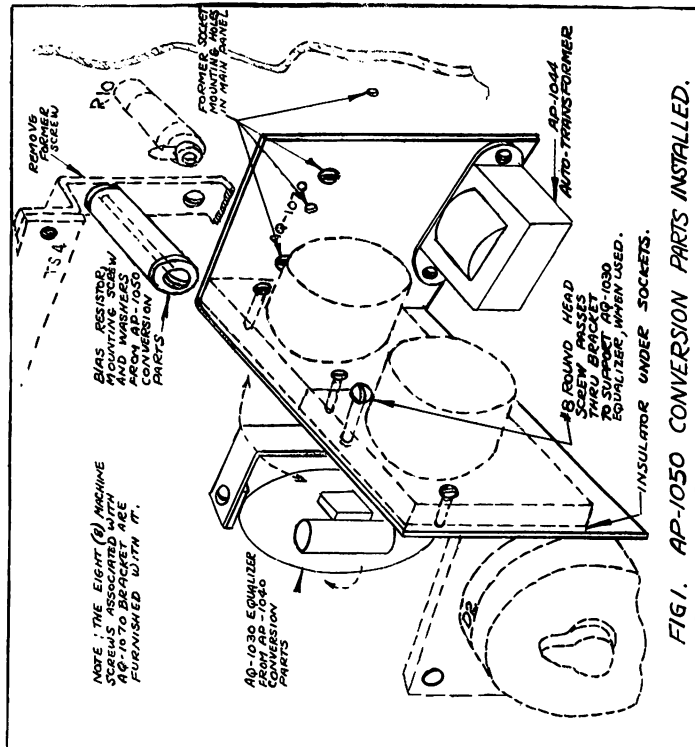

FIG. 1. AP-1050 CONVERSION PARTS INSTALLED.
- j. Remove R-18 (275 ohms) and replace with DHA 1000 ohm adjustable resistor. Mount this resistor at 45 degree angles to panel as shown in Fig. 1 by means of 8/32 x 3" round head iron machine screw, two asbestos washers using tapped hole in right-hand bracket supporting TS-4. Unsolder the leads from present R-18 resistor and solder them to new resistor. Adjust value of new resistor to 825 ohms by sliding contact.
- 4.12 Modification Procedure (Refer to Fig. 1.)
- d. Fasten AQ-1070 Mounting Bracket to amplifier panel with screws supplied, using former socket mounting holes as shown in Fig. 1.